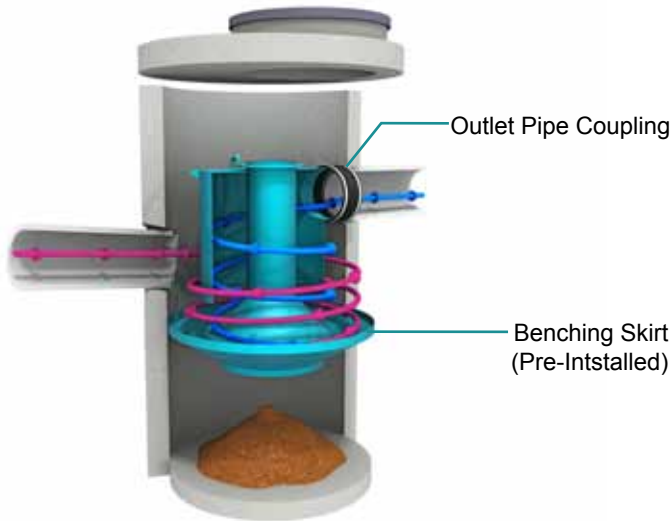

Fig.1 The outlet pipe coupling of the Downstream Defender®.
- Outlet pipe coupling (Fig.1)